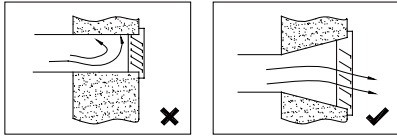

Figure 13 Shape of the Air Opening
- (4) The duct wall should be smooth, dustless and pucker-free.
- (5) Resistance to the air opening should be kept as less as possible. It is suggested to install no less than 200×200mm rectangular aluminum alloy diffusers or dual-layer grilles. If it is the water-proof grille, its size should be 3~4 times that of the sectional area of the connected duct and blade shape of the grille should facilitate passing of air flow. See figure 13 for how to select diffusers and grilles.